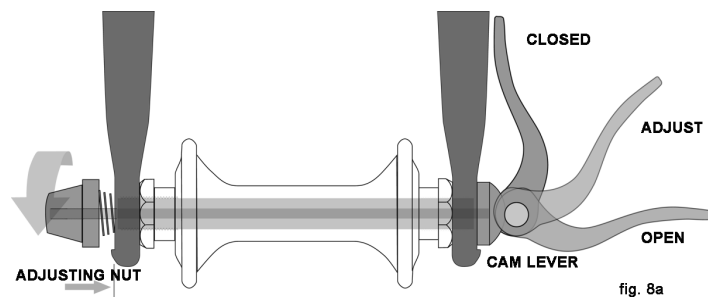
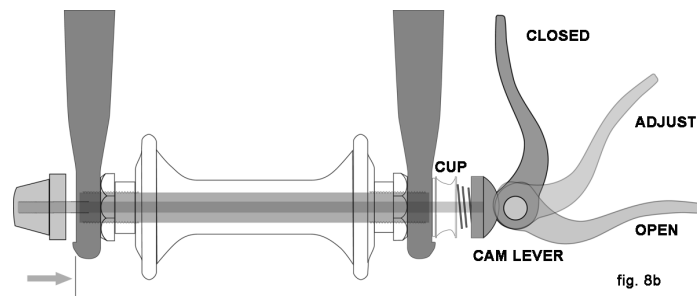

fig. 8a
fig. 8b
There are currently two types of over-center cam wheel retention mechanisms: the traditional over-center cam (fig. 8a) and the cam-and-cup system (fig. 8b). Both use an over-center cam action to clamp the bike's wheel in place. Your bicycle may have a cam-and-cup front wheel retention system and a traditional rear wheel cam action system.
a. Adjusting the traditional cam action mechanism (fig. 8a)
b. Adjusting the cam-and-cup mechanism (fig. 8b)
(2) If your bike has cam action front wheel retention, move the cam lever from the locked or CLOSED position to the OPEN position (figs. 8a & b). If your bike has through bolt or bolt-on front wheel retention, loosen the fastener(s) a few turns counter-clockwise using an appropriate wrench, lock key or the integral lever.
(3) If your front fork has a clip-on type secondary retention device, disengage it and go to step (4). If your front fork has an integral secondary retention device, and a traditional cam action system (fig. 8a) loosen the tension adjusting nut enough to allow removing the wheel from the dropouts. If your front wheel uses a cam-and-cup system, (fig. 8b) squeeze the cup and cam lever together while removing the wheel. No rotation of any part is necessary with the cam-and-cup system.
(1) If your bike has cam action front wheel retention, move the cam lever so that it curves away from the wheel (fig. 8b). This is the OPEN position. If your bike has
(2) With the steering fork facing forward, insert the wheel between the fork blades so that the axle seats firmly at the top of the fork dropouts. The cam lever, if there is one, should be on rider's left side of the bicycle (fig. 8a & b). If your bike has a clip-on type secondary retention device, engage it.
(3) If you have a traditional cam action mechanism: holding the cam lever in the ADJUST position with your right hand, tighten the tension adjusting nut with your left hand until it is finger tight against the fork dropout (fig. 8a). If you have a cam-and-cup system: the nut and cup (fig. 8b) will have snapped into the recessed area of the fork dropouts and no adjustment should be required.
(4) While pushing the wheel firmly to the top of the slots in the fork dropouts, and at the same time centering the wheel rim in the fork:
(a) With a cam action system, move the cam lever upwards and swing it into the CLOSED position (fig. 8a & b). The lever should now be parallel to the fork blade and curved toward the wheel. To apply enough clamping force, you should have to wrap your fingers around the fork blade for leverage, and the lever should leave a clear imprint in the palm of your hand. (b) With a through-bolt or bolt-on system, tighten the fasteners to the torque specifications in the hub manufacturer's instructions.
(3) On a derailleur gear system, pull the derailleur body back with your right hand.
(4) With a cam action mechanism, move the quick-release lever to the OPEN position (fig. 8b). With a through bolt or bolt on mechanism, loosen the fastener(s) with an appropriate wrench, lock lever or integral lever; then push the wheel forward far enough to be able to remove the chain from the rear sprocket.
(5) Lift the rear wheel off the ground a few inches and remove it from the rear dropouts.
Some bikes are equipped with a cam action seat post binder. The seat post cam action binder works exactly like the traditional wheel cam action fastener (Section 4.A.2) While a cam action binder looks like a long bolt with a lever on one end and a nut on the other, the binder uses an over-center cam action to firmly clamp the seat post (see fig. 8a).